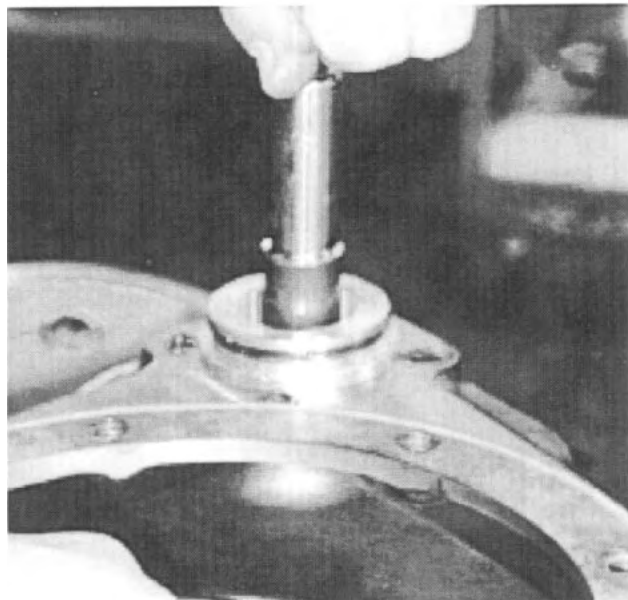

Fig. 16
17. Remove the two (2) bolts from the shift fork assembly. Remove the shifter shaft from the front declutch housing. *See Fig. 16.*